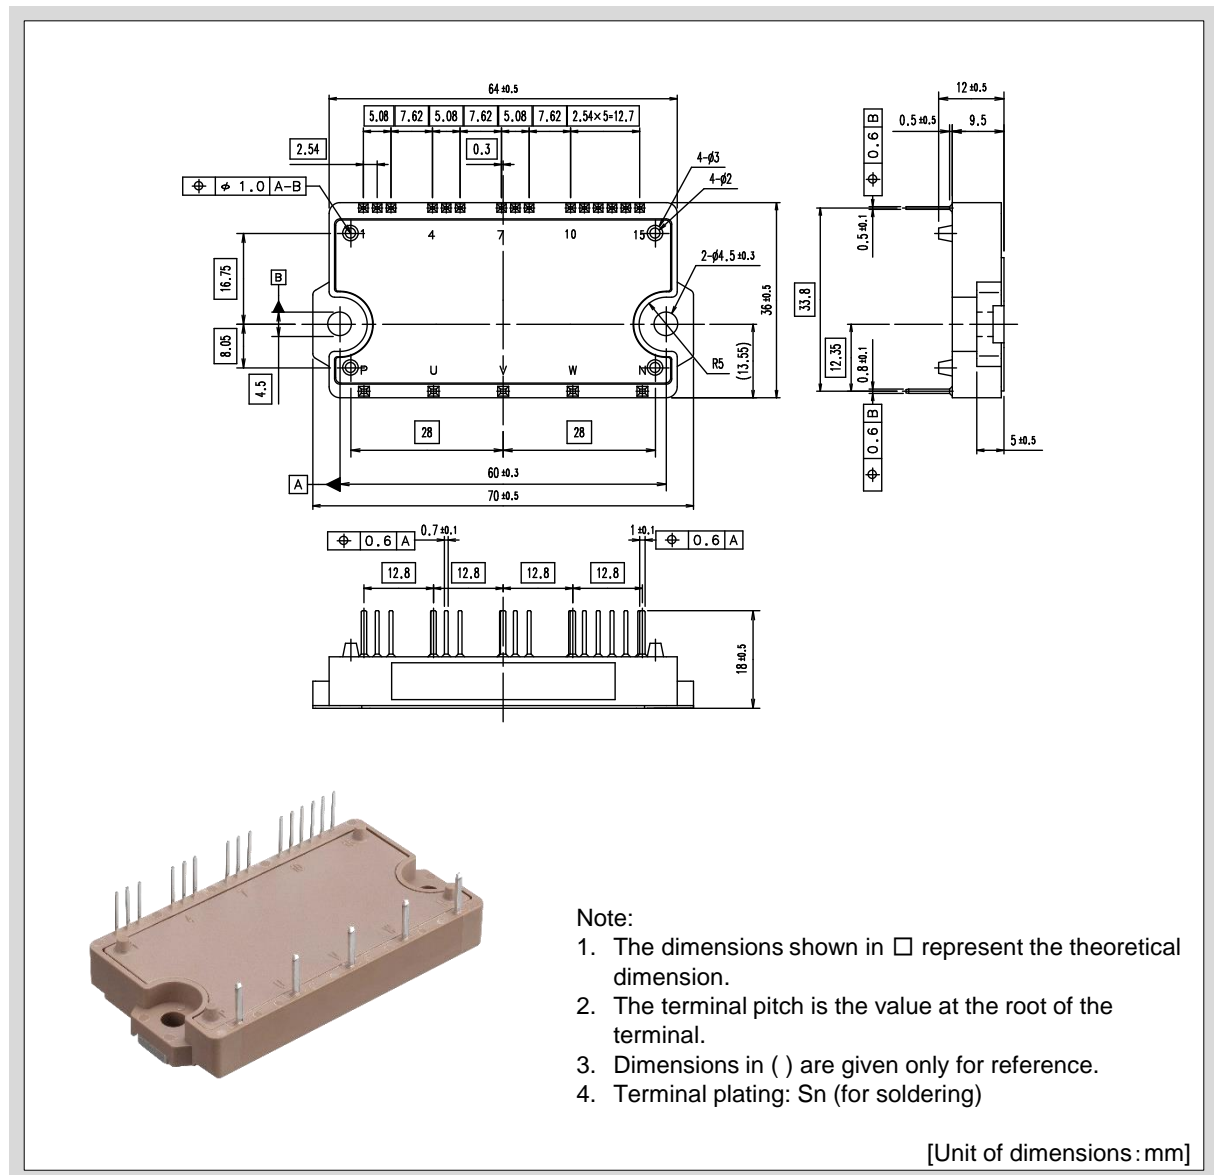

Fig.1-2 Package outline drawing (P639)
- The package outline drawing is shown in Figure 1-2.